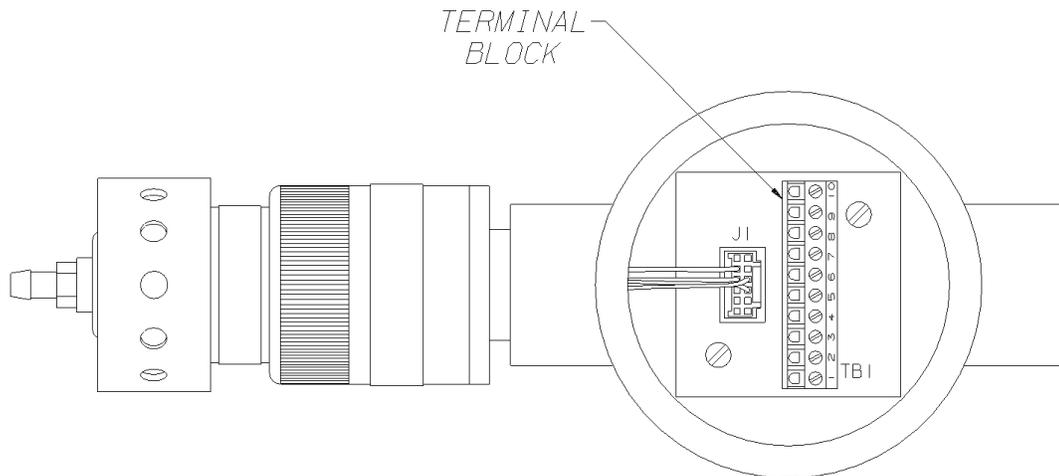

Fig. 11 Oxygen and Toxic Remote Sensor
- (2) Route Toxgard II Monitor cable through the conduit opening and wire it to the terminal block in sensor bottom.
- (3) Verify the identity of each conductor cable and connect the wire to the terminal block (Fig. 11 "Oxygen and Toxic Remote Sensor"). Note that there are four wires needed out of the six within the cable. Use the markings on the conductors at the end of the original cable or see Fig. 11 "Oxygen and Toxic Remote Sensor" for the colors of the wires that are needed.
- (2) Route the cable from the Toxgard II Monitor through the conduit opening and wire it to the terminal block in the bottom of the sensor.
- (3) Verify the identity of each conductor cable and connect the wire to the terminal block (Fig. 11 "Oxygen and Toxic Remote Sensor").